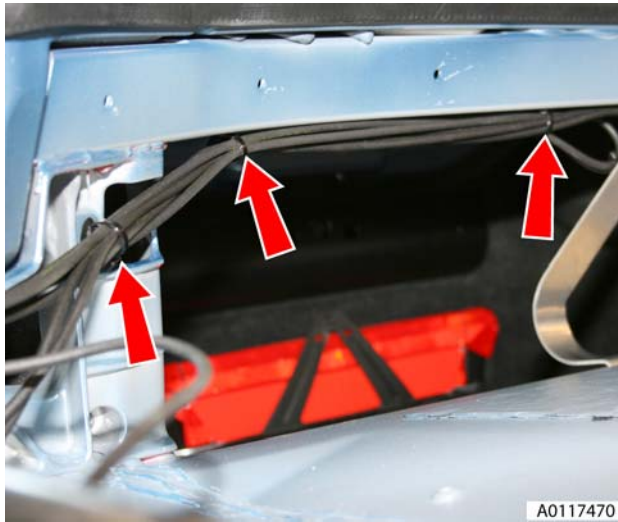

Figure 11
19. Release harness/pipe retaining clips (x3) RH side (see Figure 11).